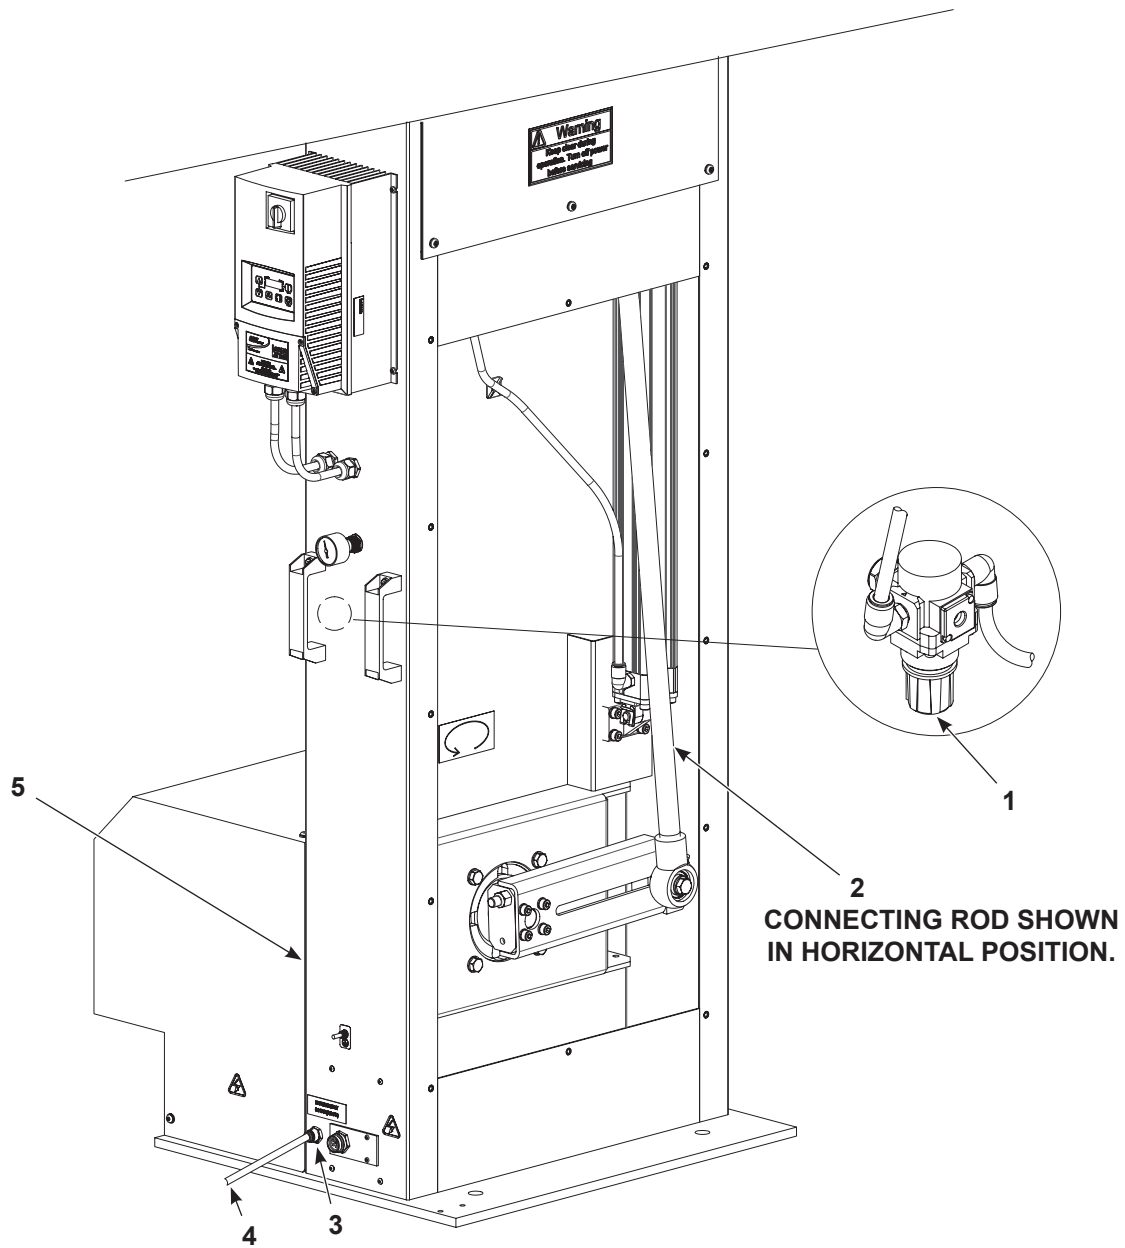

Figure 8 Supply Air Connection
1. See Figure 8. Connect an 8-mm supply air line (4) to the air fitting (3) on the oscillator (5).